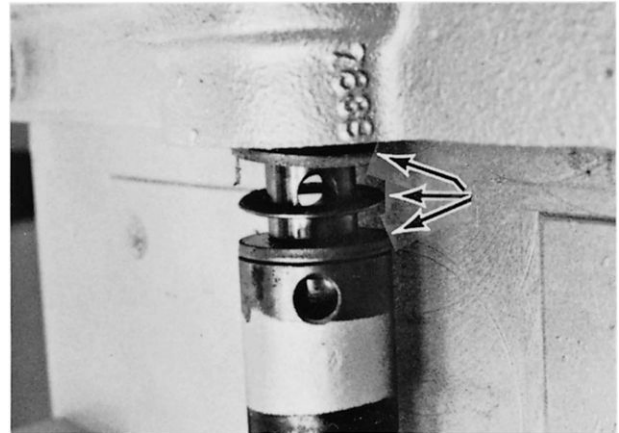

Fig. 12-10
E. Rotate (by hand) the bowl lift screw a few turns to clear the lift screw extension and remove the thrust bearing (Fig. 12-10).